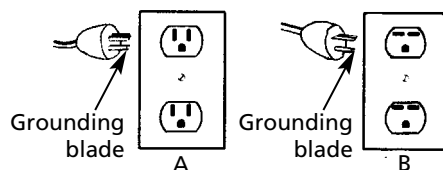

Figure 2 - Grounding Methods
3. To reduce the risk of electric shock, the motor must be securely and adequately grounded! This can be accomplished by either: 1) Inserting plug (portable) directly into a properly installed and grounded 3-prong grounding-type receptacle (as shown in Figure 2); 2) Permanently wiring the unit with a grounded, metal raceway system; 3) Using a separate ground wire connected to the bare metal of the motor frame; 4) Other suitable means. The green (or green and yellow) conductor in the cord is the grounding wire. The motor must be securely and adequately grounded for your protection against shock hazards!